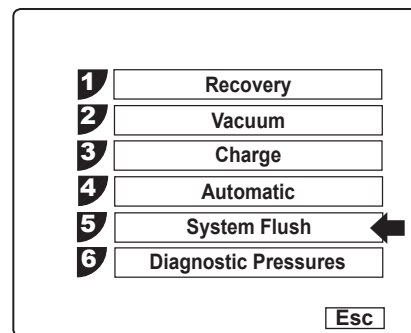

Figure 11
1. Select **SYSTEM FLUSH** from the RRR menu. See Figure 11.
After the filter is cleared or replaced, restart System Flush from the menu shown in Figure 11.